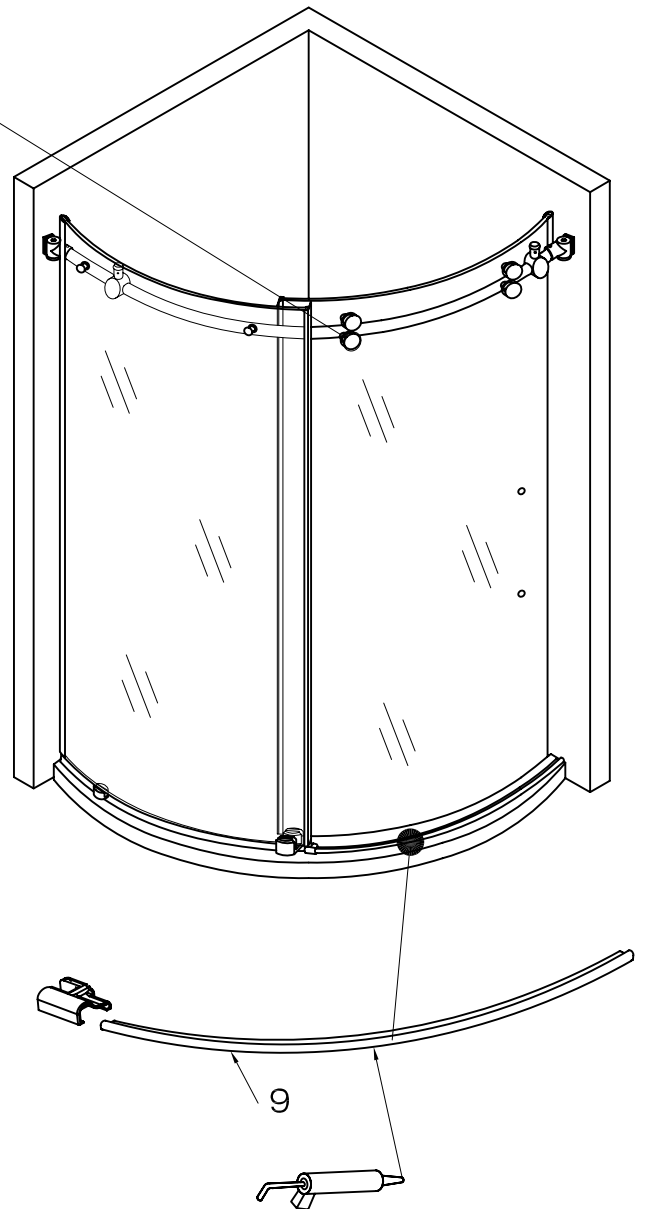

FIG. 8
3. Screw bottom rollers (3) to the door (7), see FIG. 8.